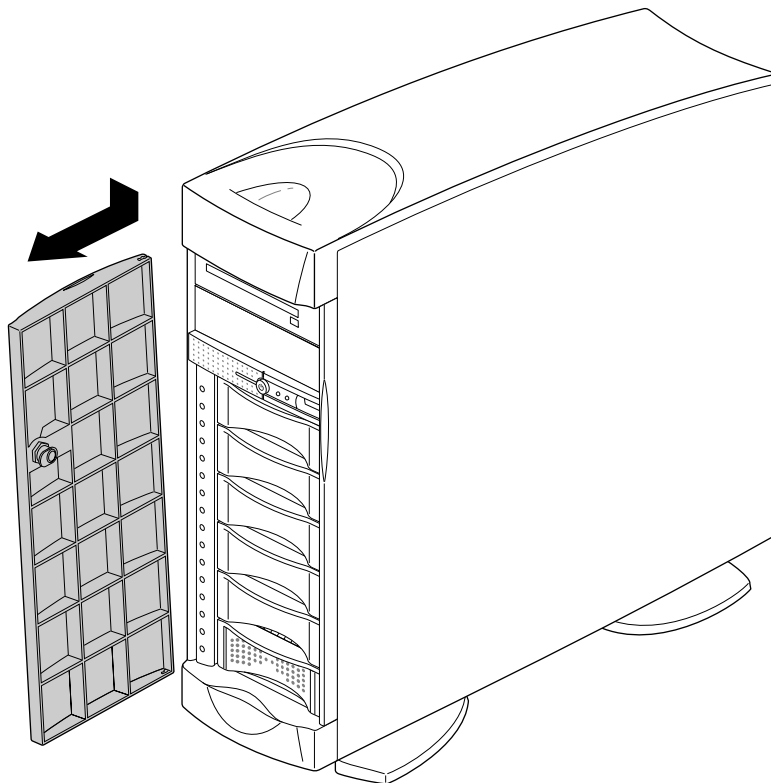

Figure 2-8 Removing the Front Door, Tower Configuration
- If your system is in a tower configuration, push down on the top, outer edge of the door, as shown in Figure 2-8. The door pops off its hinges.